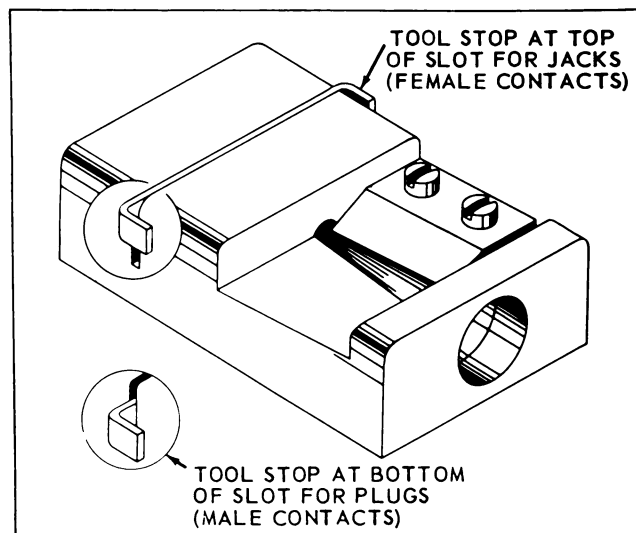

Figure 4-25. Tapering Tool MX-103/U
l. Taper dielectric using Tapering Tool MX-103/U. Use tool like a pencil sharpener. See Figure 4-25.